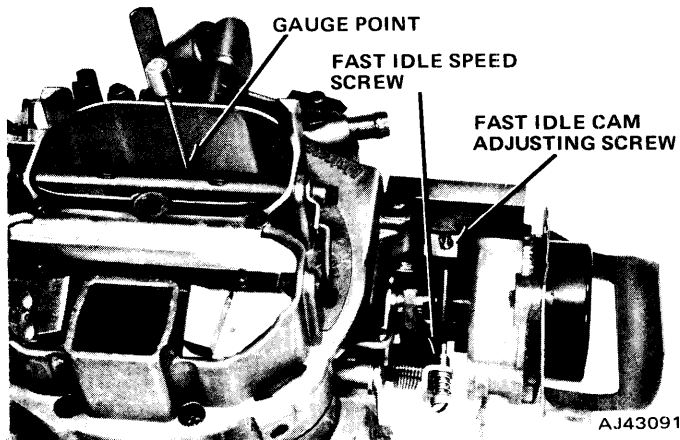

Fig. 4-136 Fast Idle Cam Linkage Adjustment
- (1) Rotate choke cover 1/4-turn clockwise (rich) and tighten the retaining screws.
- (2) Operate the throttle to allow the choke valve to close completely.
- (3) Push down on the fast idle cam counterweight until screw is in contact with the second step (index) and against the shoulder of the high step.
- (4) Measure the clearance between the lower edge of the choke valve and the air horn wall (fig. 4-136). Refer to Carburetor Service Specifications for the correct setting.
- (5) Adjust by turning the fast idle cam adjusting screw.
- (6) Loosen the choke cover retaining screws and adjust the choke as outlined under Automatic Choke Adjustment.